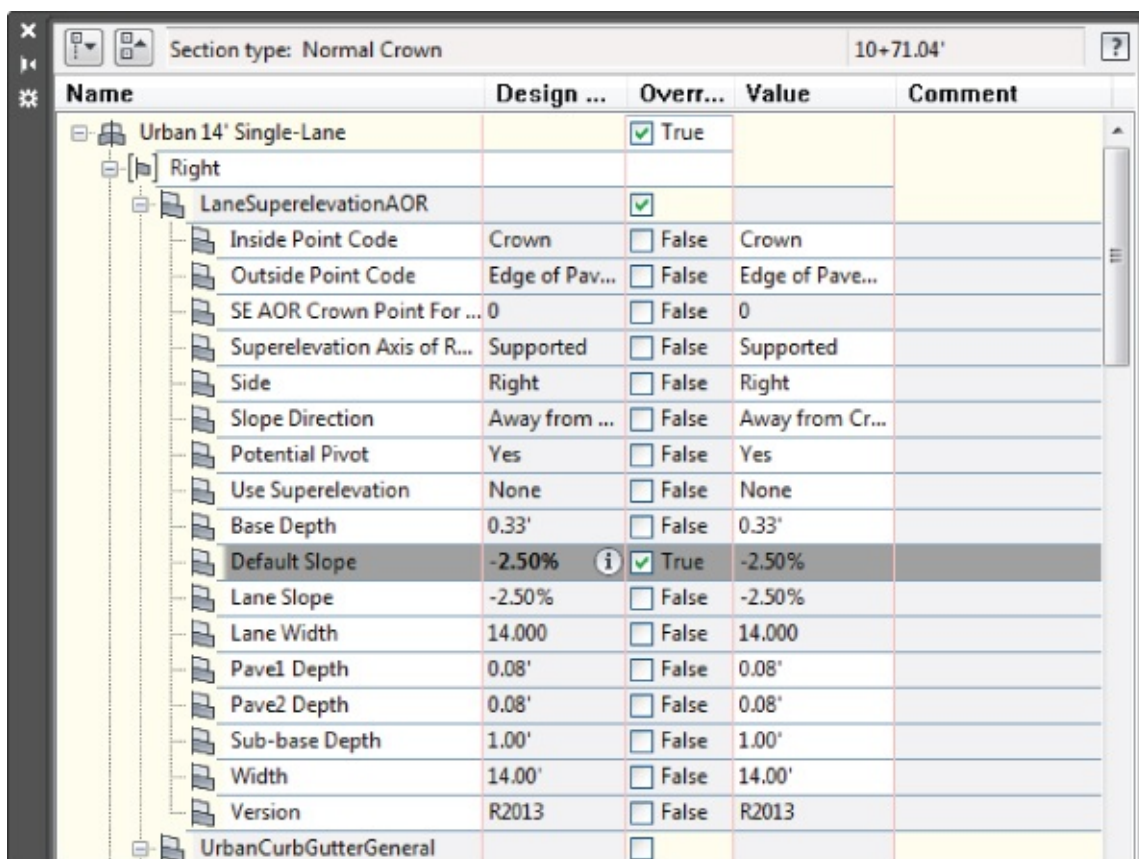

Figure 9.41 The Corridor Parameter Editor
4. When you find a value you wish to edit, click in the Value field to override the design value, as shown in Figure 9.41.